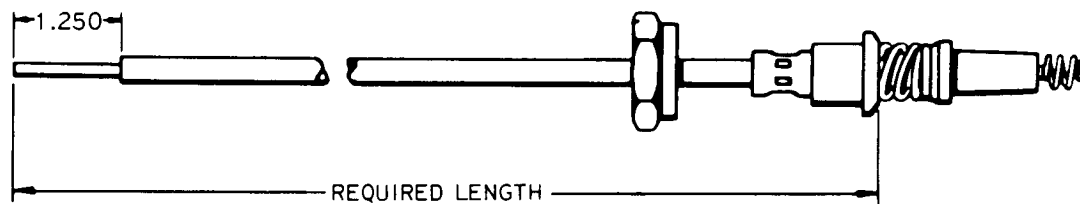

Figure 8-21. Measuring Lead Assembly Length
- (a) Measure the length of the condemned lead assembly. Move the coupling nut back on the lead assembly and measure from the outer end of the ferrule at the spark plug end. (Refer to Figure 8-21.)